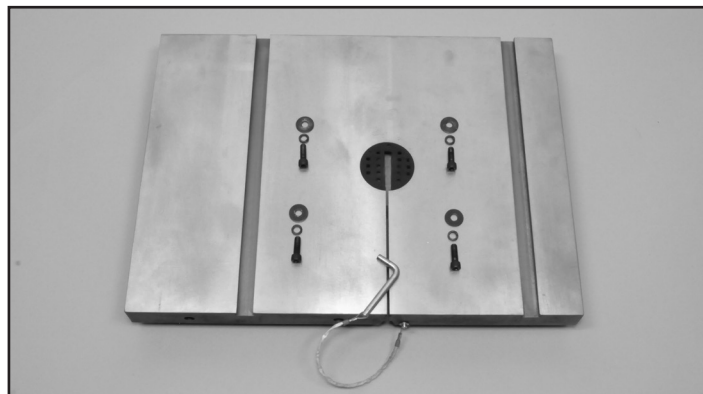

FIGURE 1
1. Mount the table (Fig. 1) in place on the trunnion with the assistance of another person. The table is heavy! Do this from the rear of the machine, so that it is easier to fit the pre-installed blade through the slot in the table.